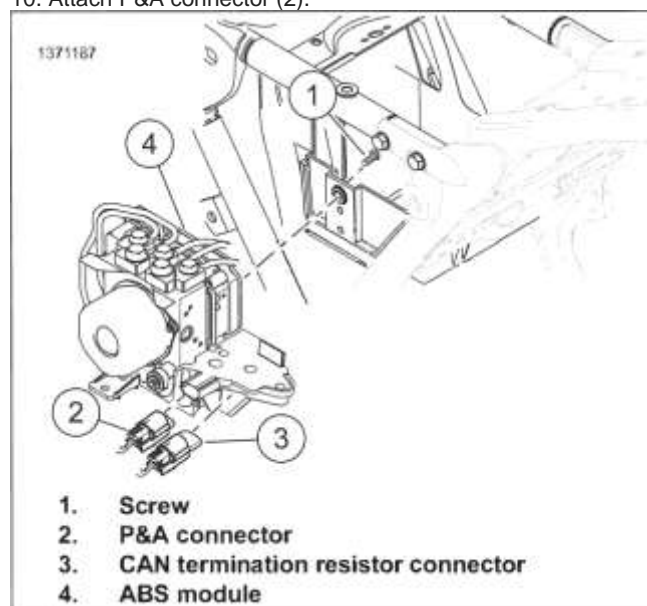

Figure 8-117. Right Side Caddy
2. See Figure 8-117. Detach CAN termination resistor connector (3).
3. Detach P&A connector (2).
6. Remove screw (1) securing right side caddy to battery tray.
4. See Figure 8-117. Install screw (1). Tighten.